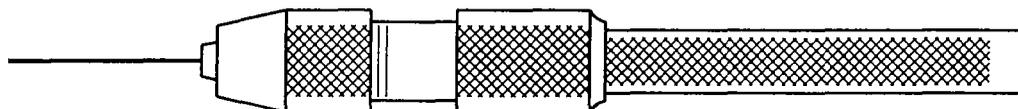

Figure 7
4. All abnormalities must be checked with a plug gauge like the one shown in figure 7. The gauge holder must weigh at least 1 ounce but not more than 1.5 ounces. The gauge must be a calibrated 0.018" diameter wire projecting at least 1 inch out of the gauge holder.